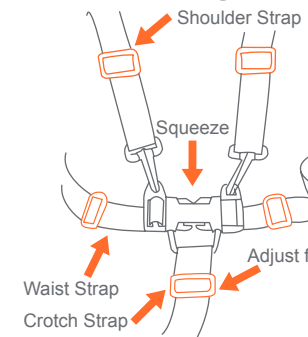

Fig. 15b
- Carefully place the child in the stroller seat and bring the safety harness around the child's waist and over the shoulders. Place the crotch strap between the child's legs. Insert the male end of each shoulder/waist belt into the buckle on the crotch strap. Tighten the harness to be snug around the child's waist and over the child's shoulders (Fig. 15b).